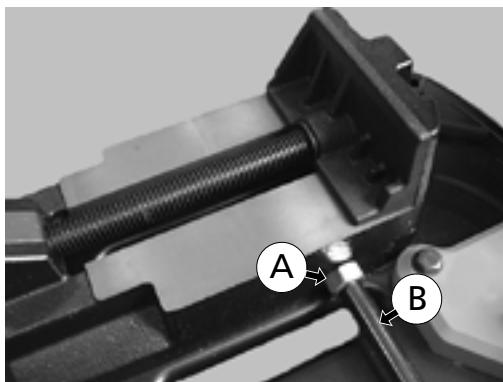

Fig. 28
To install the end stop bar on the band saw, thread the bar (B) onto the bench lathe and then tighten the screw (A) (Fig. 28)
Elements of Fig. 28